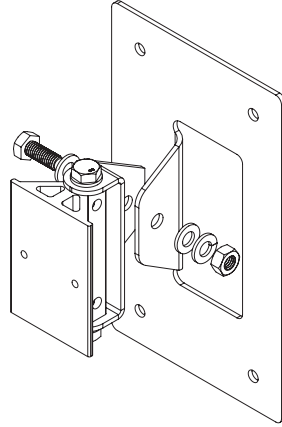

Fig. 5 (Sliding Mount Block shown not attached to speaker for clarity)
- A. Insert the 20mm M8 bolt through the short speaker bracket and the lower wall bracket as shown in Fig. 5. Be sure to include the plain washers and one lock washer as shown.